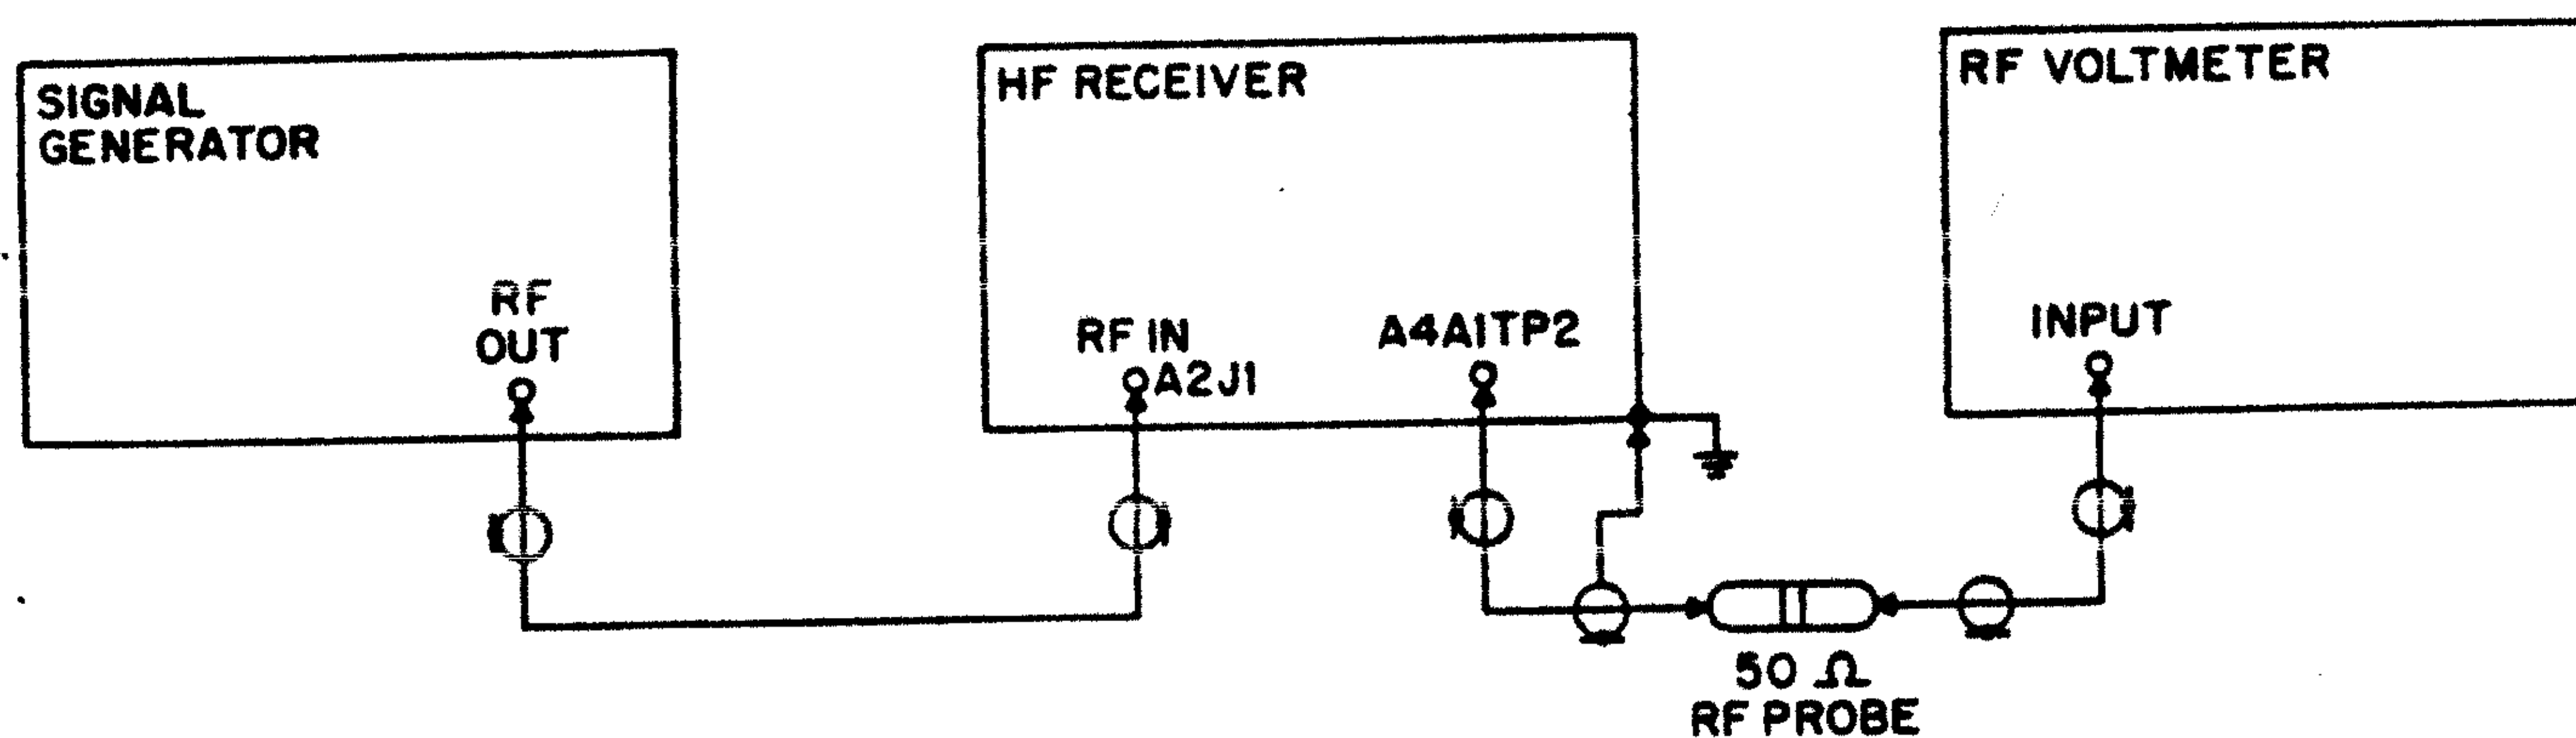

Figure 4-4. 10.7 MHz Filter Switch Adjustment, Test Setup
2. Connect the test equipment as shown in Figure 4-4. Set the Generator for 15.005 MHz, unmodulated, at -64 dBm.